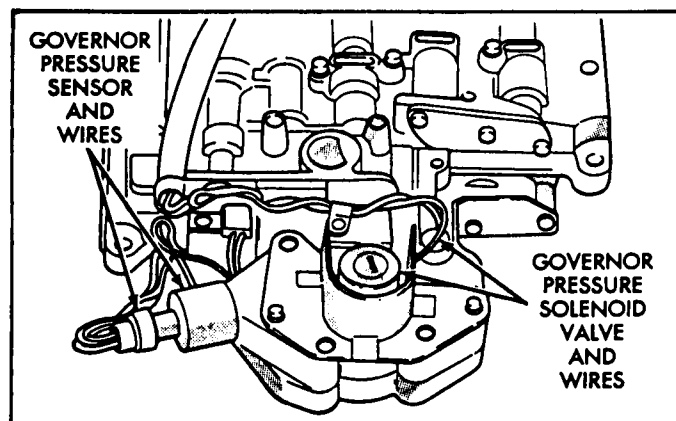

Figure 123
63. Connect the wire harness to governor pressure solenoid, using care so as not to bend the terminals. Refer to Figure 123.
64. Connect the wire harness to governor pressure sensor, using care so as not to bend the terminals (Figure 123).